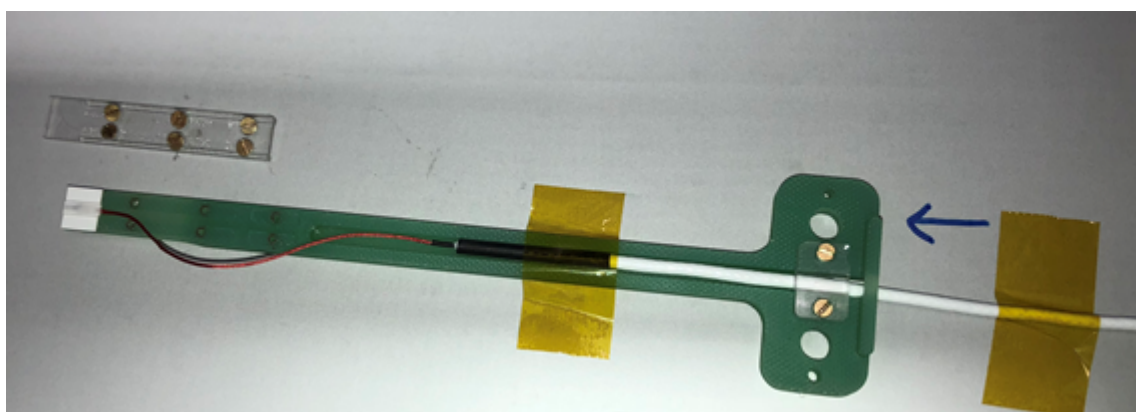

Figure 4.
Step 3: Fix the holder and white cable as shown in Figure 4: